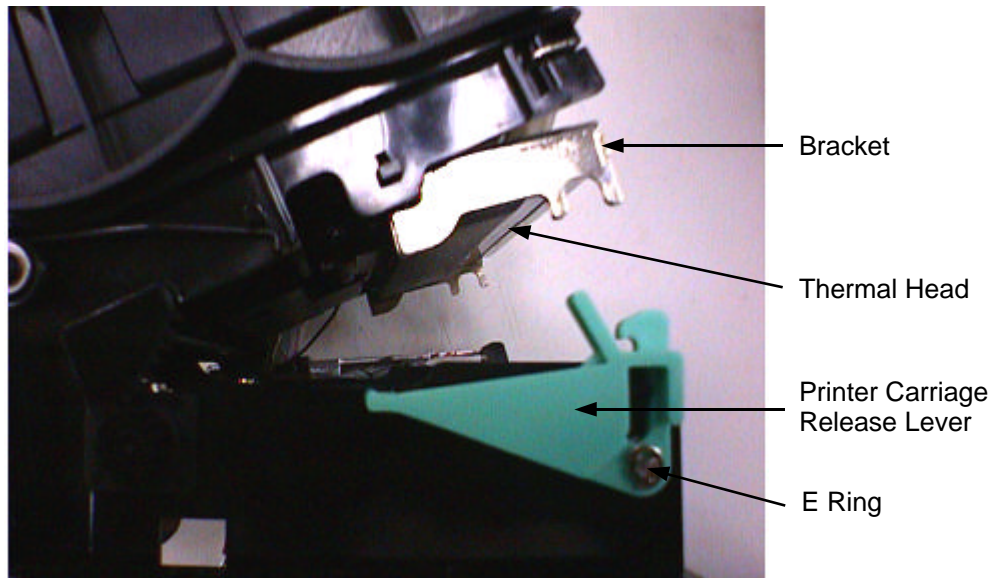

Fig. 4.16 Printer carriage release lever and E ring
17. Remove the E ring and the printer carriage release lever on the left side of the mechanism. (Fig. 4.16)